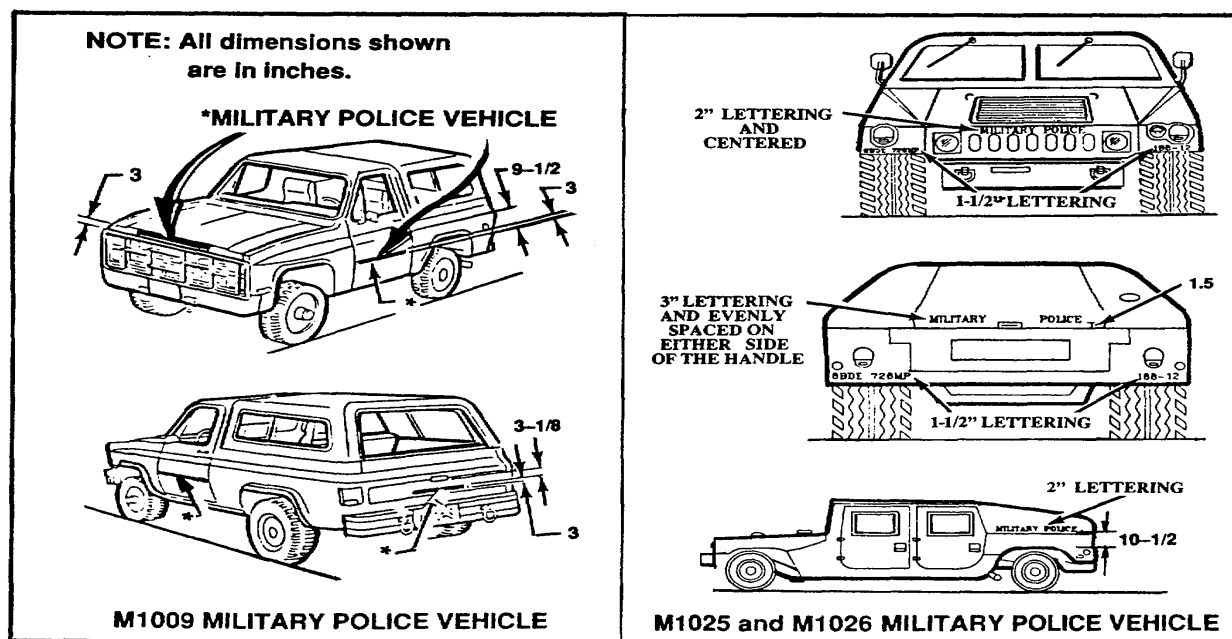

Figure 30. Military Police Markings.
(1) CUCV: The tops of the "Military Police" will be located 9-1/2 inches from the top crease of the left and right passenger doors and centered horizontally on the doors, Figure 30. The tops of the words "Military Police" will be 3-1/8 inches below the cargo door handle in the rear and centered horizontally, Figure 30. The words "Military Police" will be located immediately above the leading edge of the hood and centered horizontally, Figure 30.
(2) HMMWV: The bottom of the words "Military Police" will be located 10-1/2 inches above the rear wheel well and centered using 2-inch block letters, Figure 30. The bottom of the words "Military Police" will be located 1-1/2 inches above the bottom edge of the cargo shell door and evenly spaced on either side of the door latch using 3-inch block letters, Figure
30. The words "Military Police" will be centered on the front hood using 2-inch block letters, Figure 30.